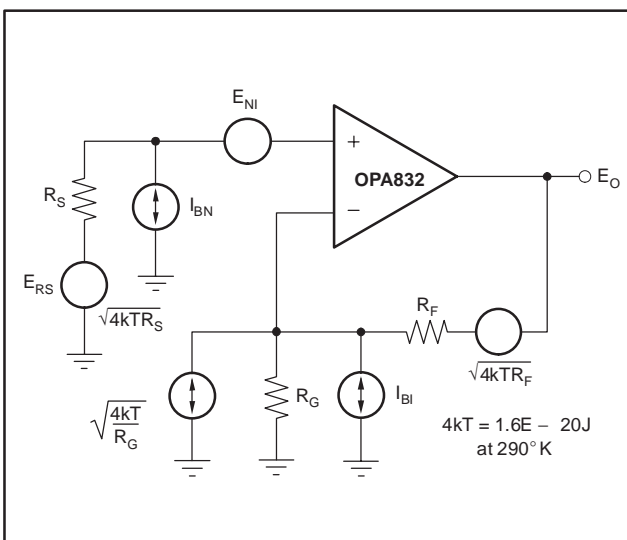

Figure 10. Noise Analysis Model
Unity-gain stable, rail-to-rail (RR) output, voltage-feed-back op amps usually show a higher input noise voltage. The 9.2nV/√Hz input voltage noise for the OPA832 however, is much lower than comparable amplifiers. The input-referred voltage noise and the two input-referred current noise terms (2.8pA/√Hz) combine to give low output noise under a wide variety of operating conditions. Figure 10 shows the op amp noise analysis model with all the noise terms included. In this model, all noise terms are taken to be noise voltage or current density terms in either nV/√Hz or pA/√Hz.
The total output spot noise voltage can be computed as the square root of the sum of all squared output noise voltage contributors. Equation 1 shows the general form for the output noise voltage using the terms shown in Figure 10: